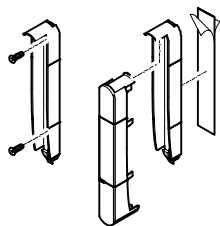

Fig. 7
2. The assembly shell of the door/window detector is fixed in place on the door/window by means of double-sided adhesive tape or two screws. Refer to Fig. 7.